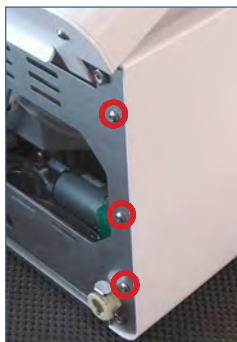

Figure 4
7. Using a 2.5 mm Allen wrench, remove the three (3) screws securing the side panel to the rear of the unit (Figure 4).
1. Reinstall the side panel and secure to the front of the unit with three (3) screws and lock washers (Figure 4). Tighten using a 2.5 mm Allen wrench.